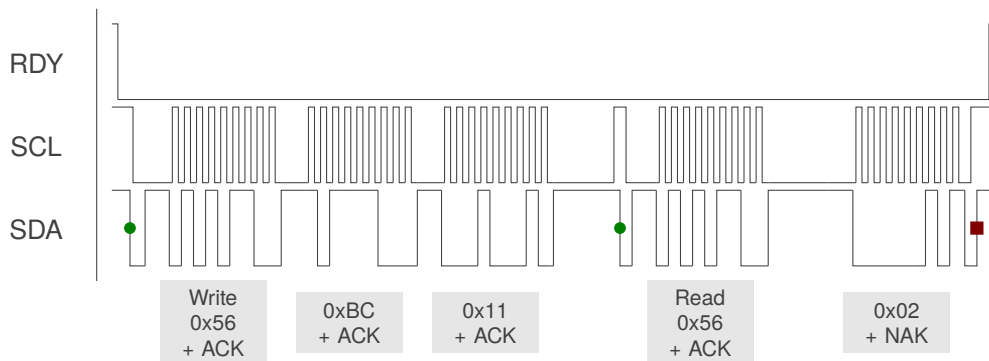
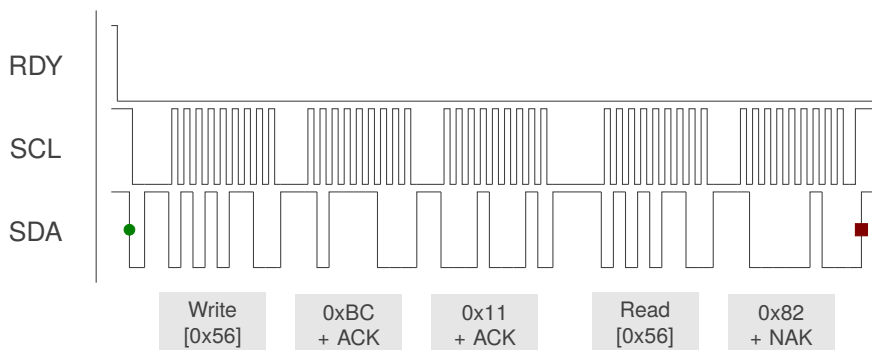

Figure 13.1: I2C Read Example - Read System Control Register 0x11BC before modifying
Figure 13.2: I2C Write Example - Write 0x82 (Ack Reset bit) to System Control Register 0x11BC
The read operation is displayed in Figure 13.1. The master device waits for the RDY line of the IQS9150 to go low, indicating the availability of new data and an available communication window. It's always advisable to wait for the RDY line to go low before initiating I2C transactions. Once the RDY interrupt triggered, the master initiates communication by sending a start condition followed by the device address along with a write command. The IQS9150 will respond with an acknowledgement after which the master device will transmit two bytes defining the register address. The master will then send a repeated start condition followed by the device address with a read command. The IQS9150 will then transmit data from the requested address and will continue to do so while the master acknowledges each byte. The read operation is ended when the master does not acknowledge the last byte received and produces a stop condition.
The write operation is displayed in Figure 13.2. Similar to the read transaction, when the RDY interrupt is triggered, the master initiates communication by sending a start condition followed by the device address along with a write command. The IQS9150 will respond with an acknowledgement after which the master device will transmit two bytes defining the register address. The slave acknowledges the register address bytes. The master may then write a series of bytes to the register address and the addresses which follow, with each byte being acknowledged by the slave. The write operation is ended when the master produces a stop condition.
- > Read the System Control Register (0x11BC) as illustrated in Figure 13.1.
- > Write the value 0x82 to Register 0x11BC as shown in Figure 13.2.
With the *Terminate Comms Window* setting cleared in the *Config Settings* register, a standard I2C STOP ends the current communication window. If multiple I2C transactions need to be done, then they should be strung together using repeated-start conditions instead of giving a STOP. This will allow the communication to occur in the same session. Allowing an I2C STOP to terminate the communication window is the recommended method, and is illustrated in Figure 13.1 and Figure 13.2.